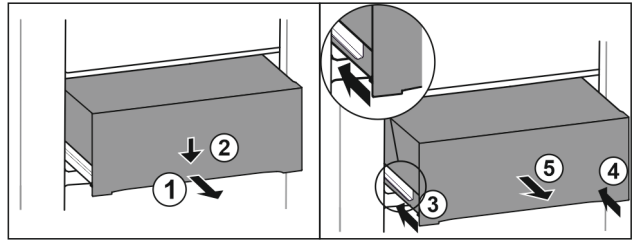

Fig. 111
- ▶ Pull out drawer half-way. Fig. 111 (1)
- ▶ Push the drawer down at the front. Fig. 111 (2)
- ▶ Push the left rail in by about 2 cm. Fig. 111 (3)
- ▶ Push the right rail in by about 2 cm. Fig. 111 (4)
- ▶ Remove drawer to the front. Fig. 111 (5)